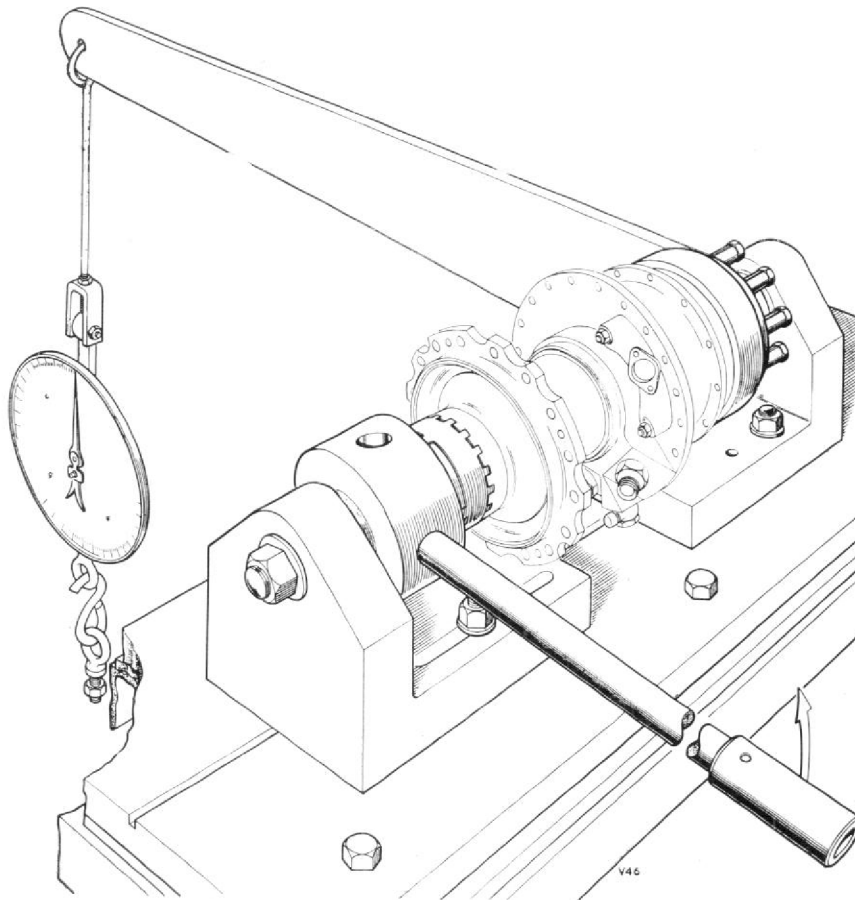

Fig. 7. Torque fixture T.76700, stand T.74466, ring spanner T.72417, tommy bar T.76701 and extension T.76702, for removing hub shaft ring nut.
7. Using tommy bar T.76701 and extension piece T.76702 unscrew the hub shaft nut, Fig. 7.